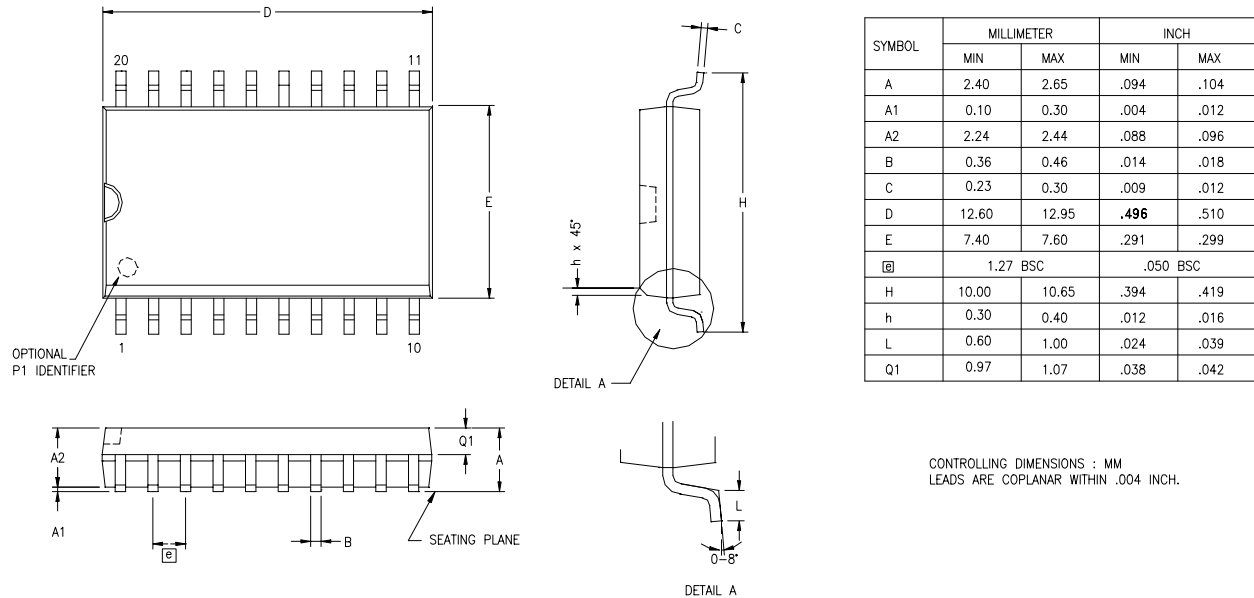

**Figure 38. 20-Pin Small Outline Integrated Circuit Package (SOIC)**
**Figure 38** displays the 20-pin Small Outline Integrated Circuit Package (SOIC) available for Z8 Encore! XP F0823 Series devices.